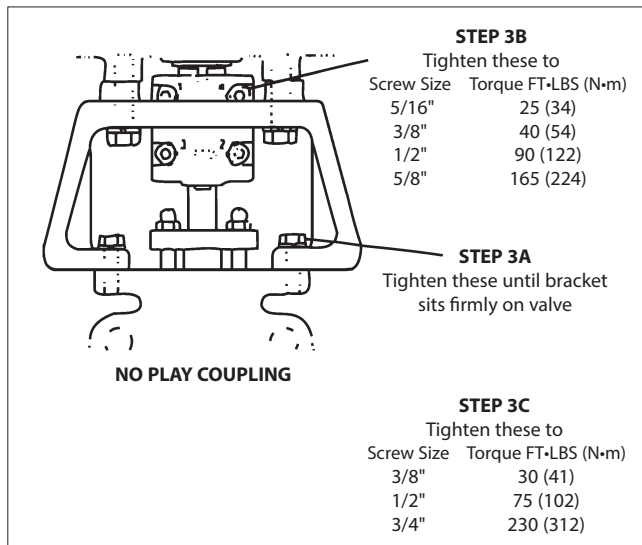

Figure 10.
- c. From **Figure 10**, the ballooned part number, part name and quantity required.